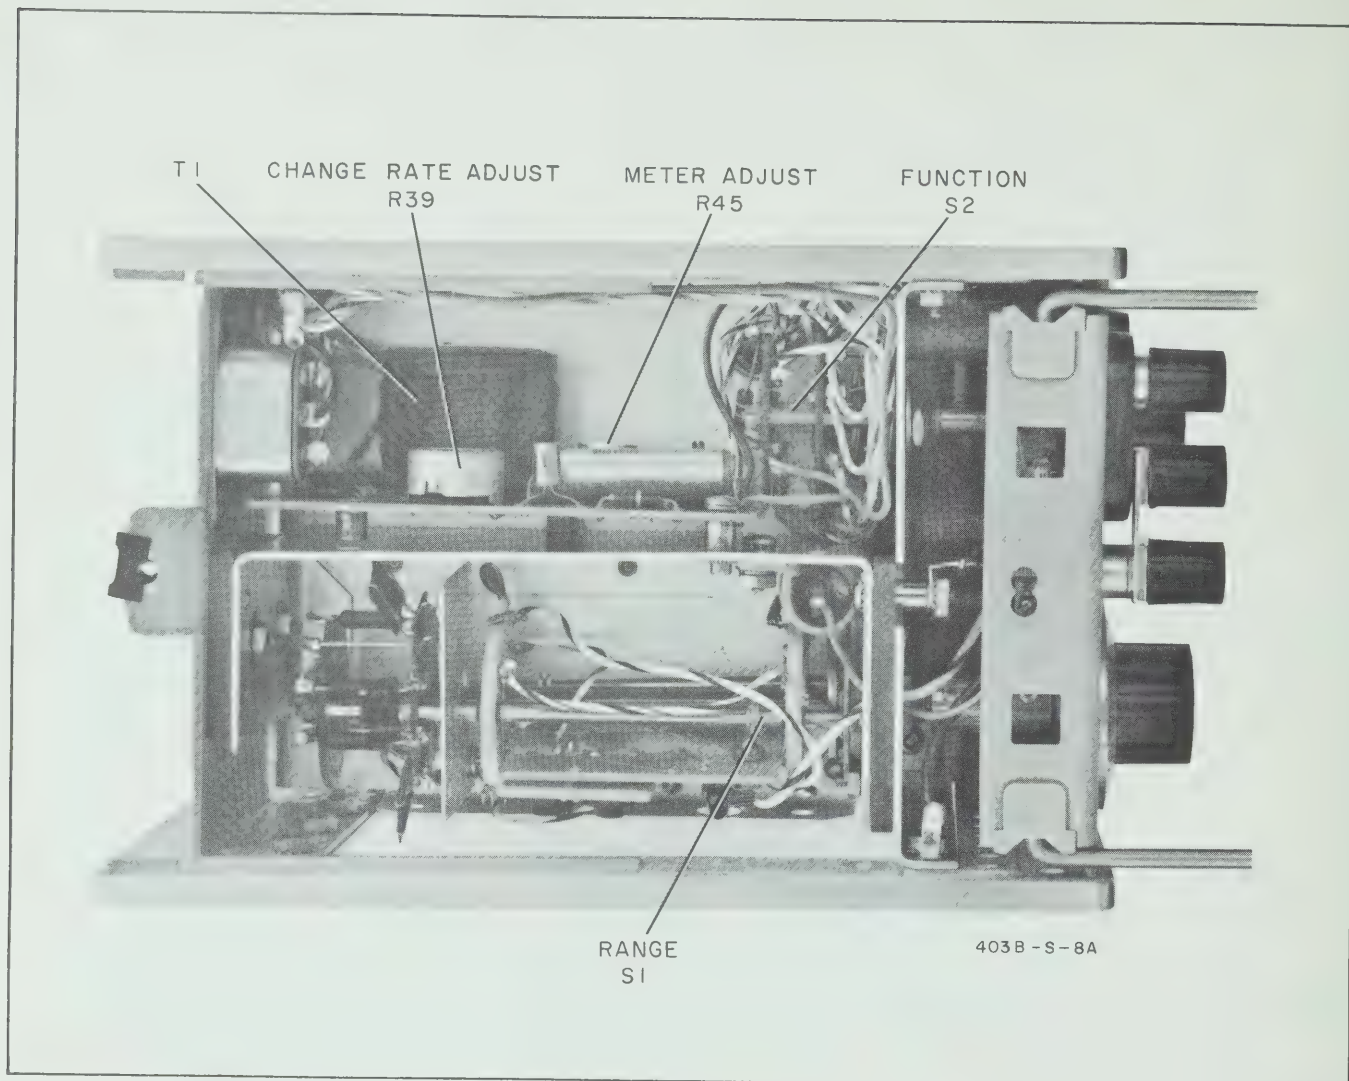

Figure 5-2. Model 403B Bottom View
b. Connect a Clip-On DC Ammeter (Ⓢ Model 428A/B) probe around the violet wire connected to battery BT4. Adjust R39 (see Figure 5-2) for an indication of 6.2 ma on the DC Ammeter.